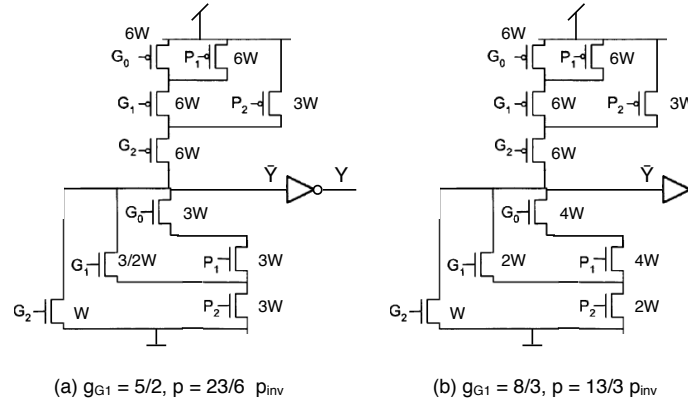

Figure 9: Two possible scalings for equal worst-case resistance and the corresponding values for g_{G1} and p .
- There are some different possibilities for how to scale the transistors to get the same worst-case resistance. The two most likely scalings of the schematic are shown in Figure 9 with the corresponding values for g_{G1} and p . Solution (a) is probably the one most students have done. Here is that derivation of the logical effort in detail: